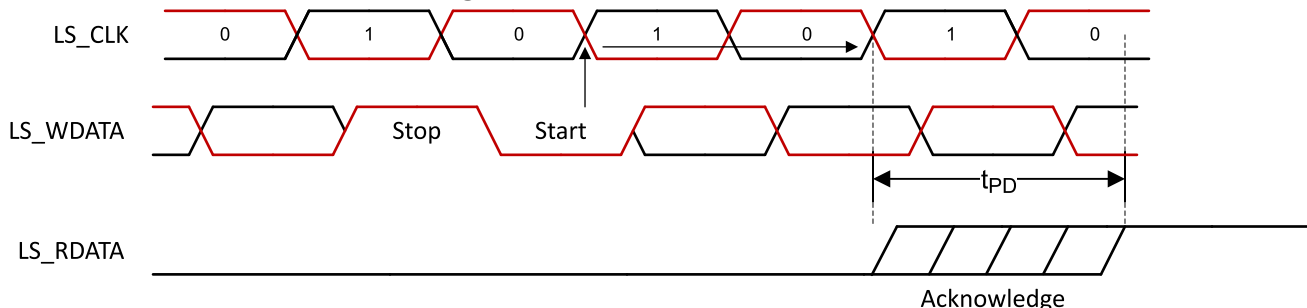
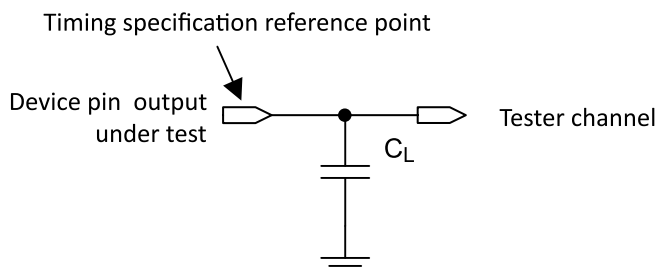

图 6-10. LPSDR Read Out
图 6-11. Test Load Circuit for Output Propagation Measurement
- (1) Device electrical characteristics are over Recommended Operating Conditions unless otherwise noted.
- (2) See 图 6-10 and 图 6-11